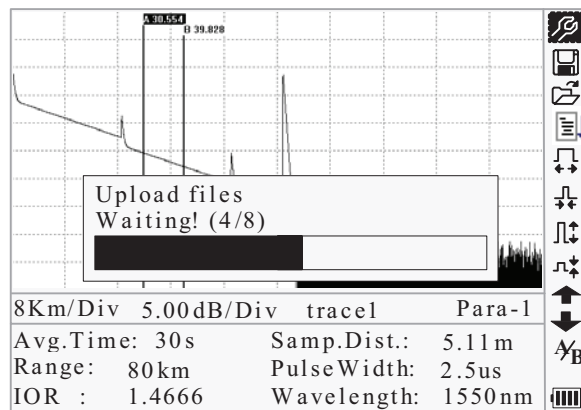

Figure 4-7. Upload Saved Traces
- Power on palmOTDR, and upload data with the software. The whole process is as in Figure 4-7.